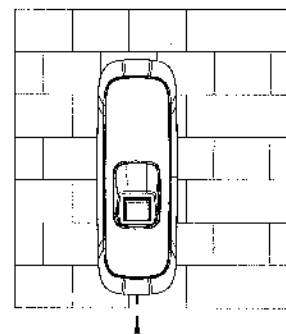

Figure 3-2
Step 2. Put back front cover. Fix cover on the device via screw 2. See Figure 3-2.